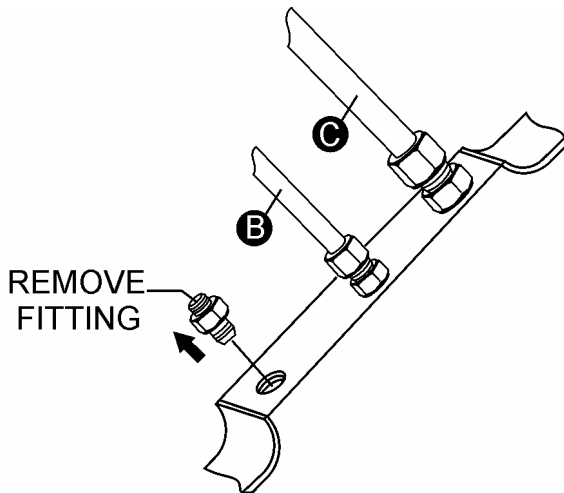

Figure 7. Fitting Removal (Hose A)
- Remove fitting as shown in Figure 7. Removal of this fitting will provide easier access when removing hose B and its associated fitting. Place this fitting in a safe place where it will not get lost. It will be used later.
- Remove hose **B** as shown in Figure 7.